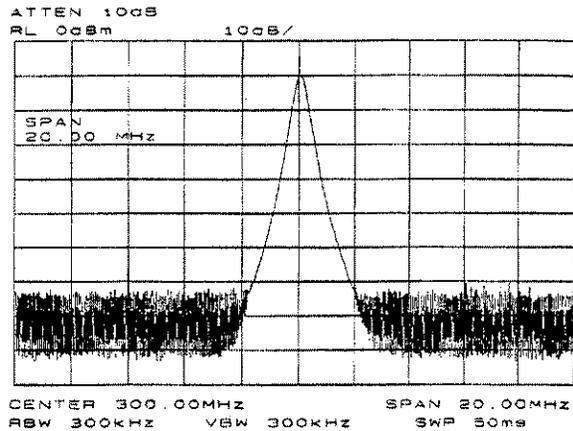

Figure 1-4. Frequency Span Reduced to 20 MHz
- Set the frequency span. Press **SPAN**. Note that SPAN is now displayed in the active function block, identifying it as the current active function. To reduce the frequency span—for example, to 20 MHz—either key in 20 **MHz** or use the step down-arrow key to “step down” to this value. (Like data keys, step keys can also be used to change the numeric value of the active function.) The resulting display is shown in Figure 1-4. Note that the resolution and video bandwidths are coupled to the frequency span; they are automatically adjusted to appropriate values for a given span. Sweep time is also a coupled function.